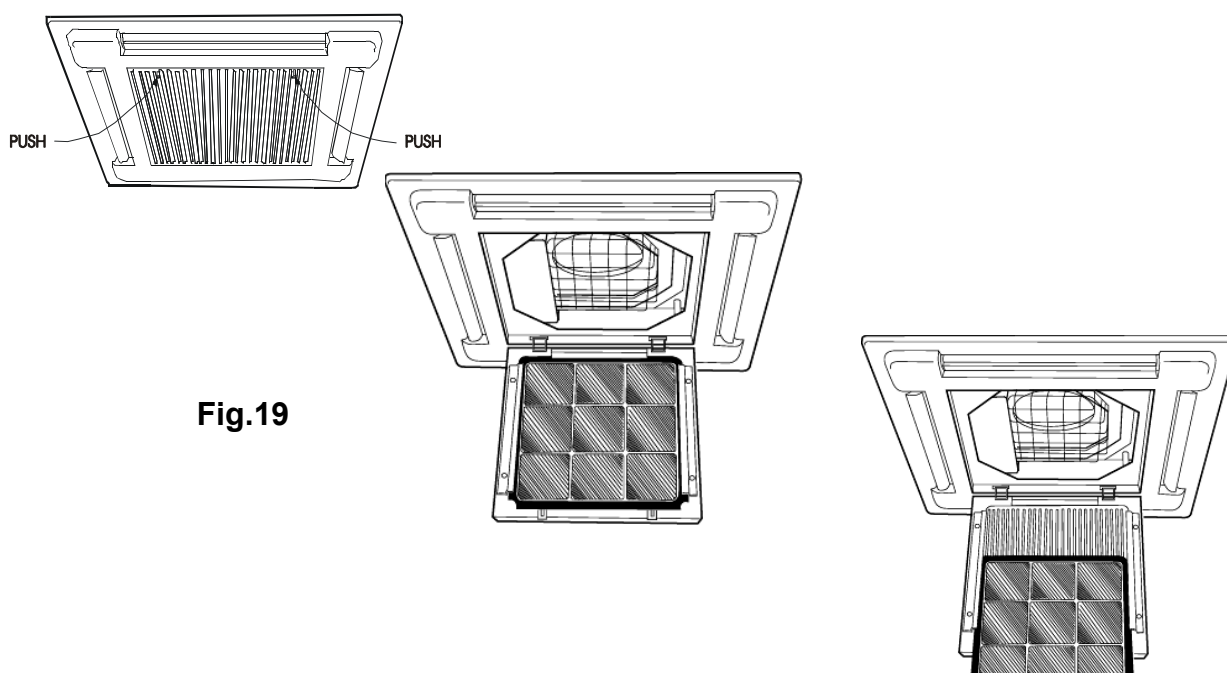

Fig.19
2. The air filter is made of acrylic fiber and is washable in water. To remove filter simply open the intake grille by releasing the two catches. See Fig.19 and the section filter removal.